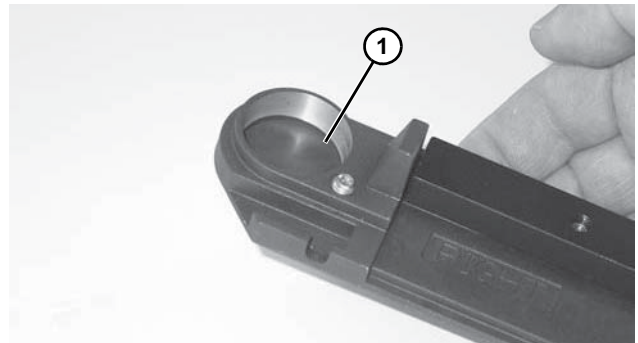

Figure 67
1. Inspect the headplates bearing seating surface (**Figure 67, item 1**). If they are worn or damaged, replace. See "Service Parts" on page 34.